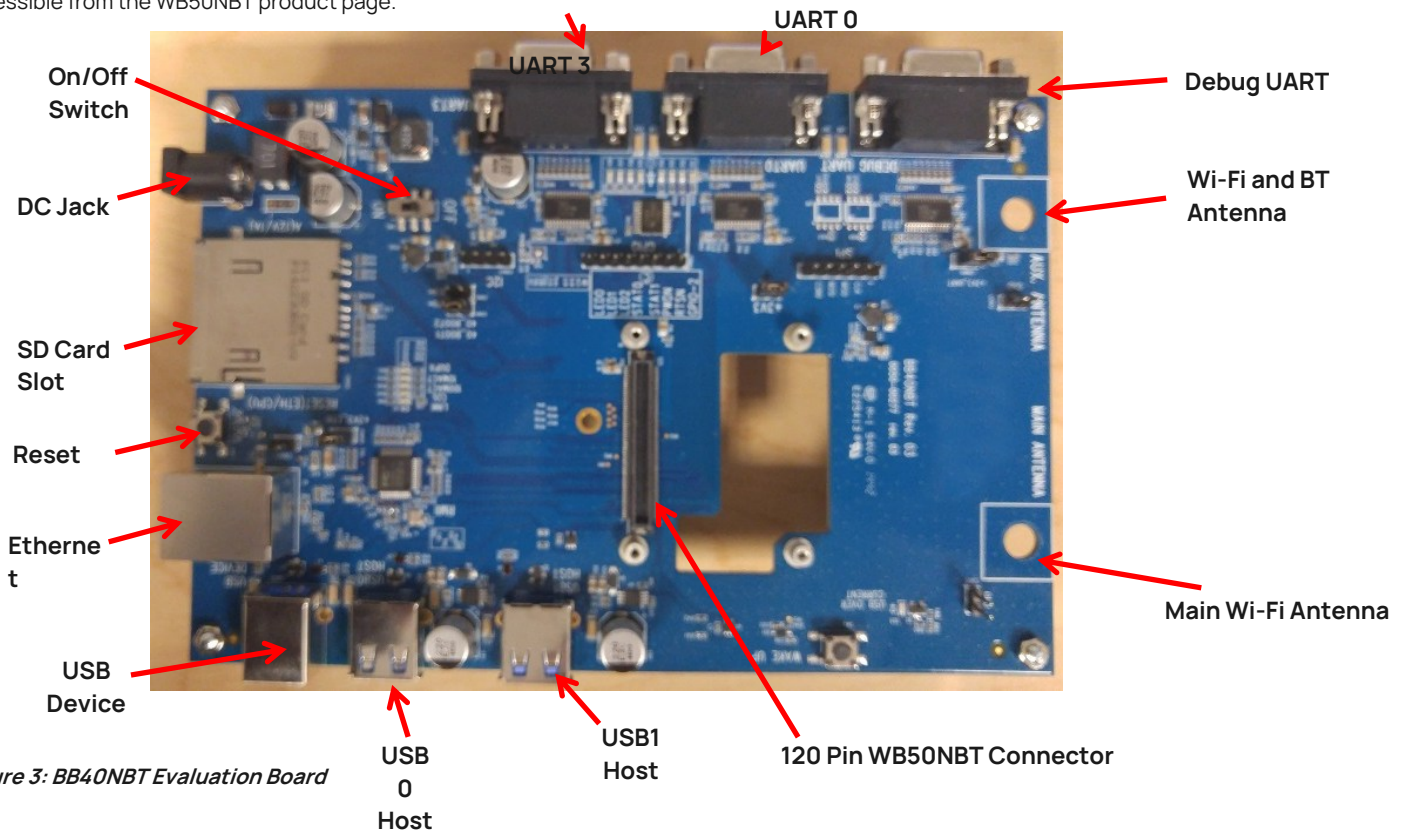

Figure 3: BB40NBT Evaluation Board
The Ezurio WB50NBT is a flexible communications module providing a variety of interfaces which are made available on the BB40NBT shown in Figure 3. Additional information regarding all interfaces, their use and configuration is available in the *WB50 Reference Guide*. This guide is accessible from the WB50NBT product page.
3. Connect the DB9 connector of your USB-to-RS232 cable to the port marked **Debug UART** shown in the BB40NBT overview diagram Figure 3.